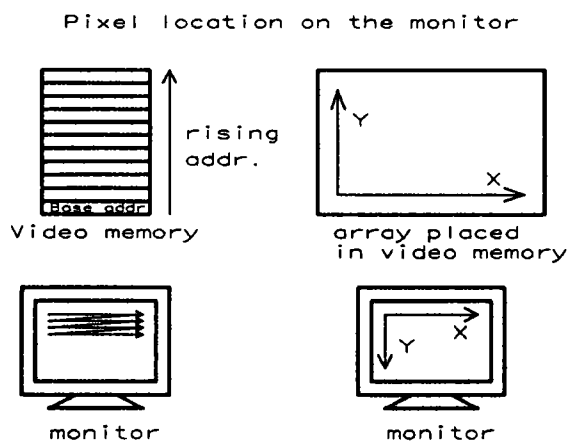

Figure 3.1 Pixel location on the monitor
5) The origin of the coordinate system lies at lower left corner of the video memory (see figure 3.1).